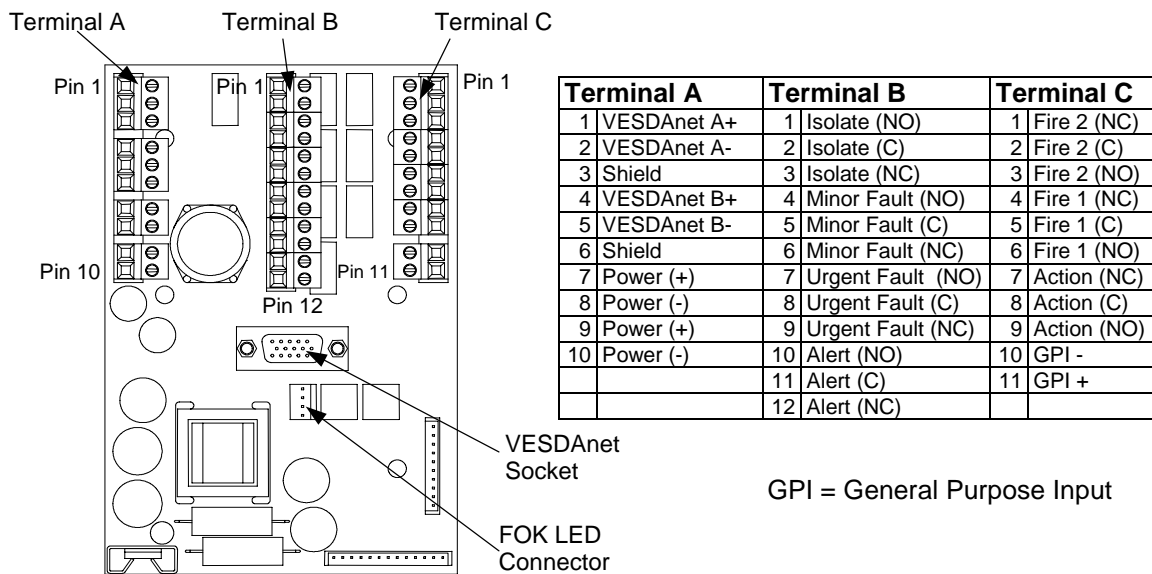

Figure 9 Termination Card Details for 7 Relays
- a) Refer to Figure 9 or 10 for the location of the power terminals on the termination card.
- a) Refer to Figure 9 or 10 for the VESDAnet terminal location on the termination card.
- a) Refer to Figure 9 or 10 for the relay terminals location on the termination card.